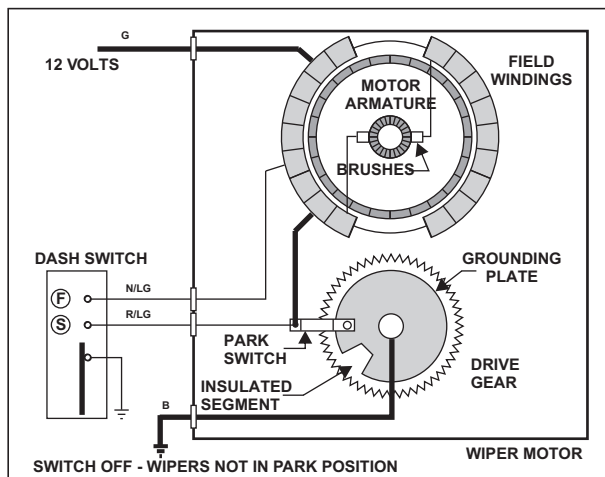

FIGURE 3
**WIPERS OFF, BLADES NOT IN THE PARK POSITION:** Refer to **figure 3** below. With the dash switch off, the ground path is through the park switch. As long as the wipers are not parked, the motor will continue to run, as if in the low speed position. The current path in this condition is shown by the heavy lines.